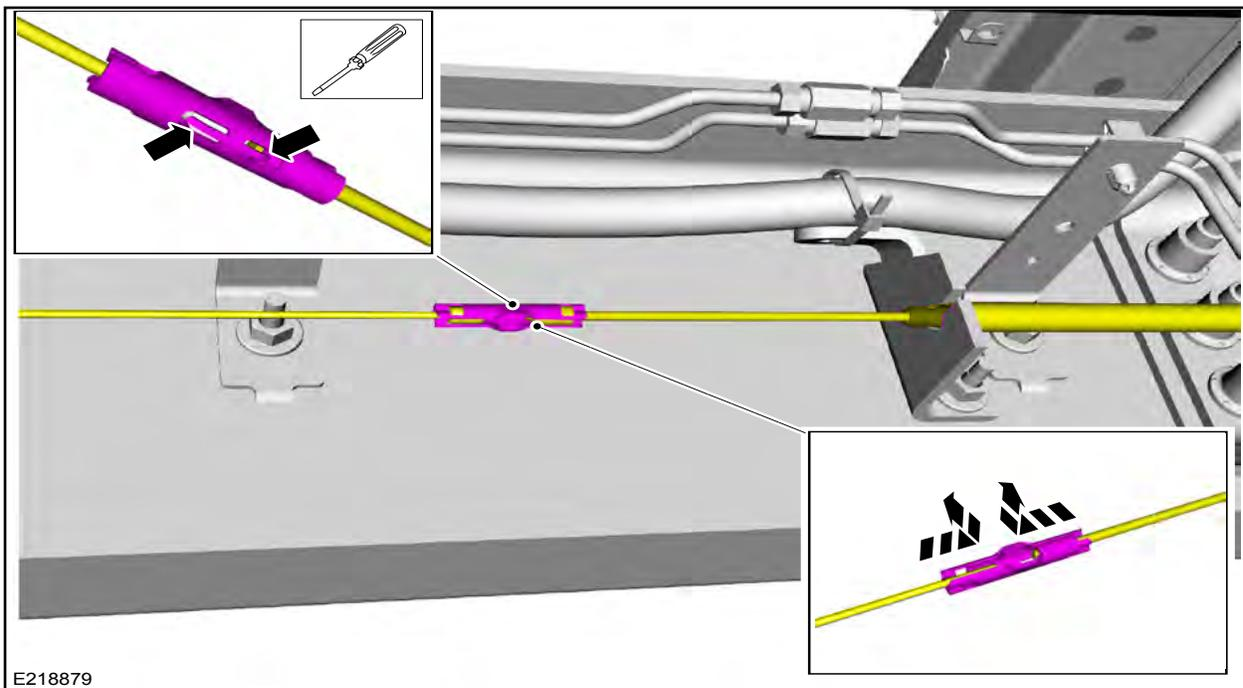

FIGURE 3
4. Disconnect both ends of the parking brake cable from the parking brake cable union, then discard the parking brake cable union. See Figure 3.